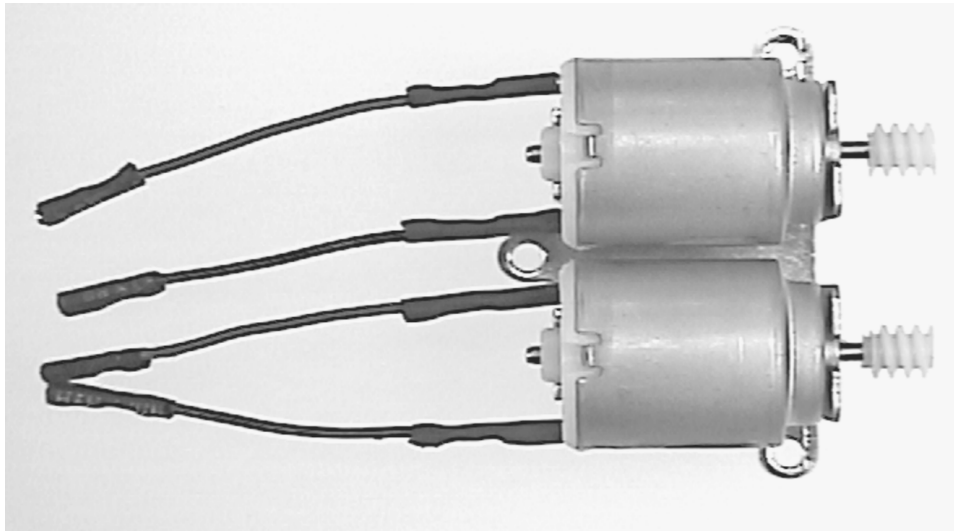

Figure 1-7 Motor wires connected.
Step 4. Plug the red wire assemblies into the two motor power tabs marked “+” and the black wires into the other motor power tabs as shown in Figure 1-7. Looking at the motors from above (Figure 1-7), the red wires should be at the “top” while the black wires are at the “bottom.”